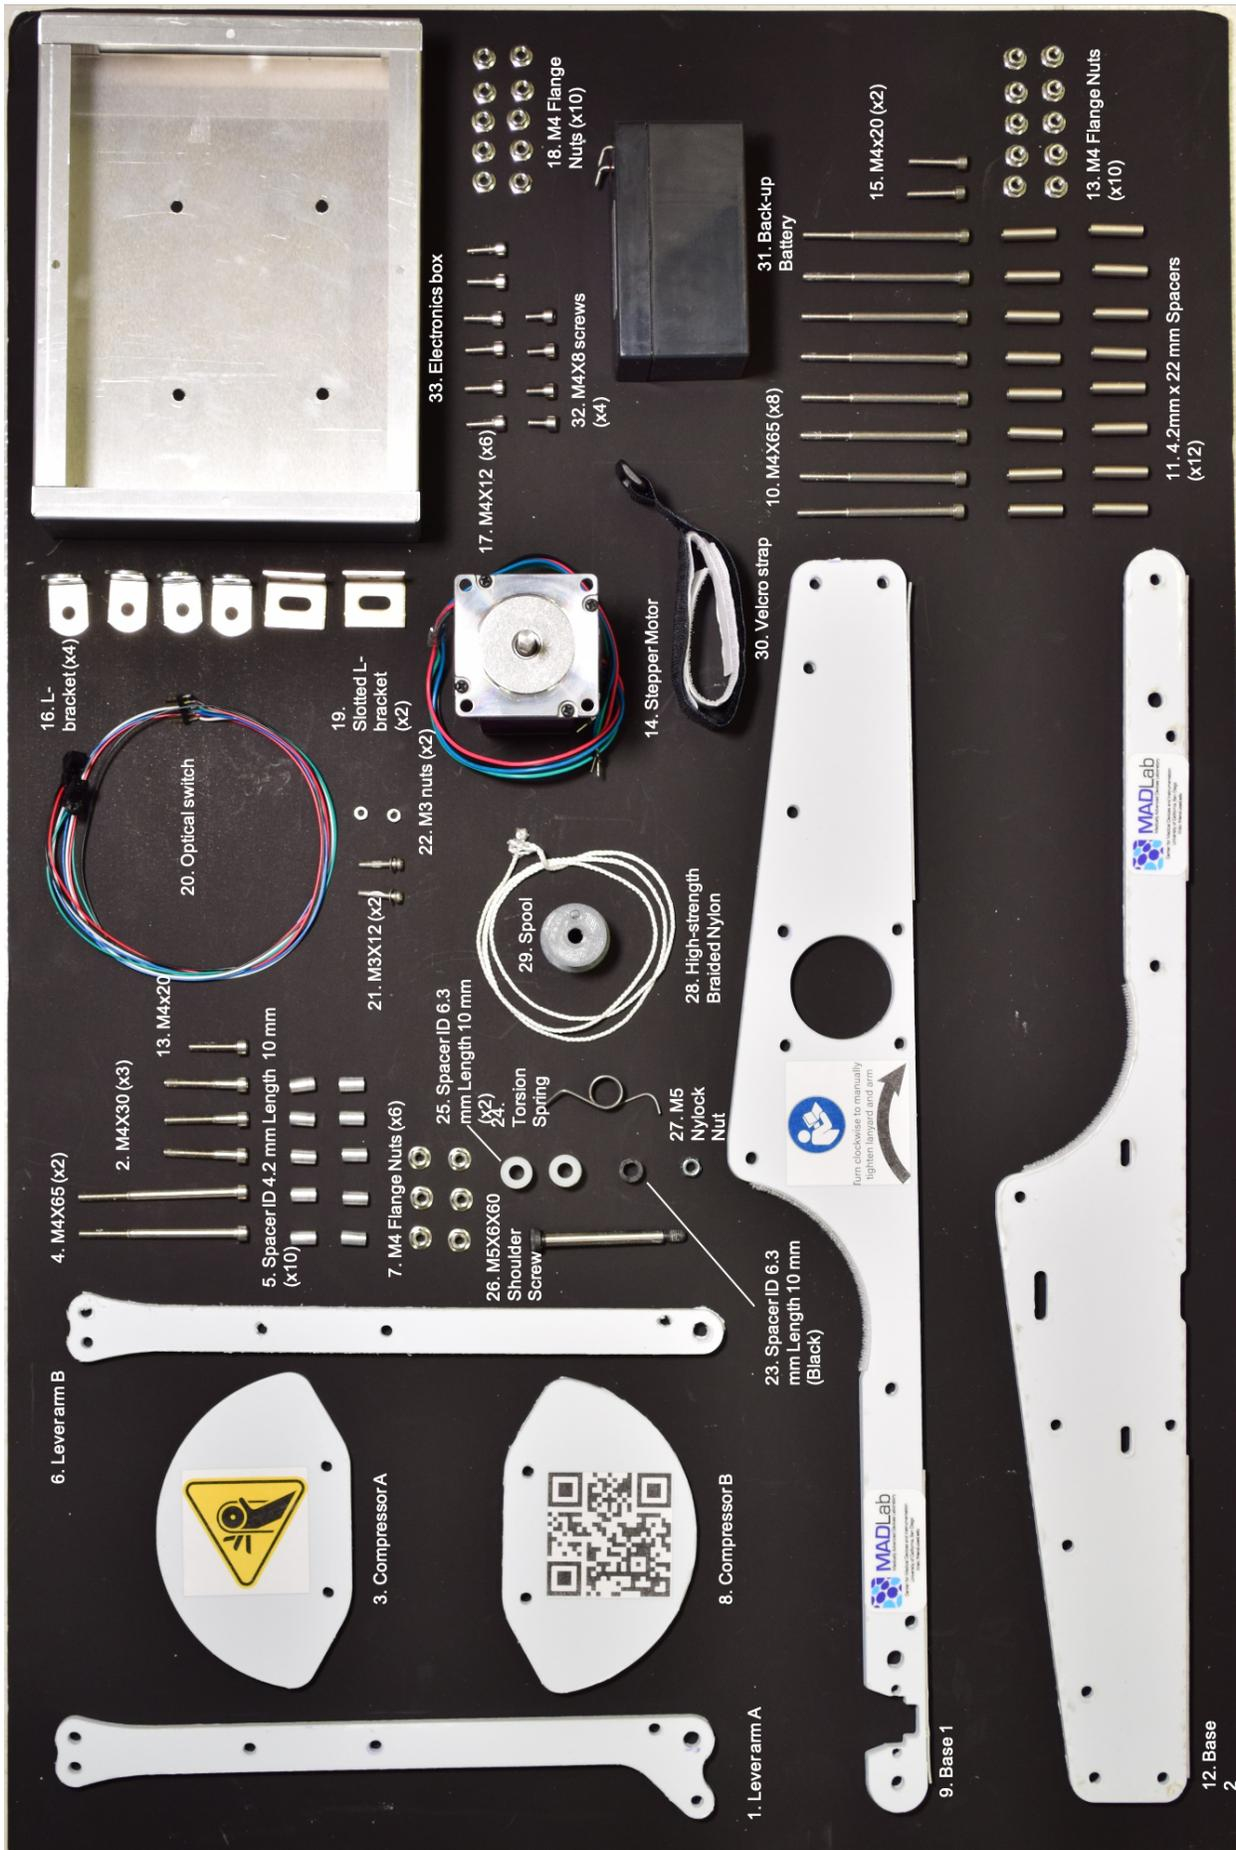

Figure 1: All parts for MADVent ventilator system
Step 1: Ensure that the package comes with all the components listed below and pictured in Figure 1.
The items below are not shown in Figure 1 for clarity but should be present in your kit
Step 2: Take lever arm A [Refer to Fig.1 and identify **Part 1**] (Fig. 2a) and insert M4X30 socket head screws [Fig.1: Part 2] into each of the following holes: one is offset from the midline near the bottom of the arm (Fig. 2b) and two more are at the top of the arm (Fig. 2c). Set this lever arm aside.